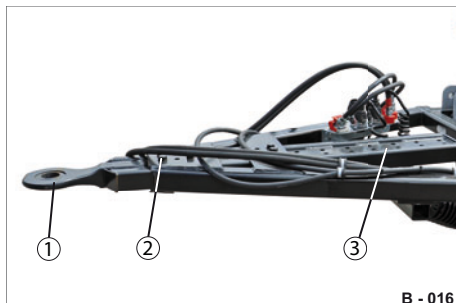

Fig. 29 Drawbar - variety 1
- ▶ Disassemble the screw connections (Fig. 29/2).
- ▶ Slide adjustment tube in/out (Fig. 29/3) with the towing eye (Fig. 29/1) to the required length.